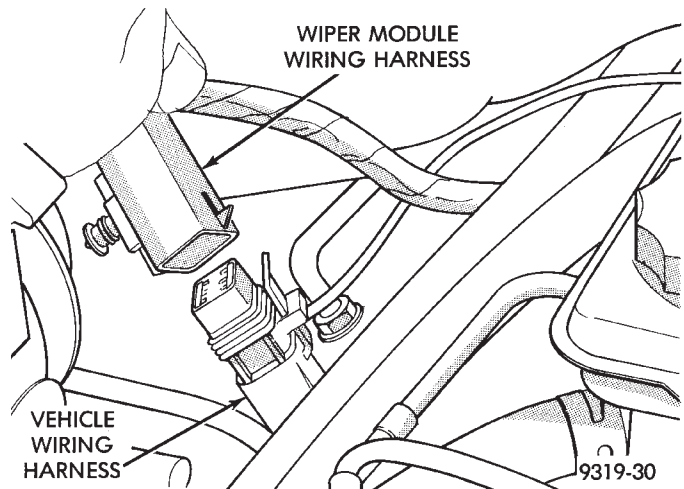

Fig. 21 Windshield Wiper Module Wiring Connection
(13) Connect wiring harness connector from windshield wiper module into vehicle wiring harness (Fig. 21).